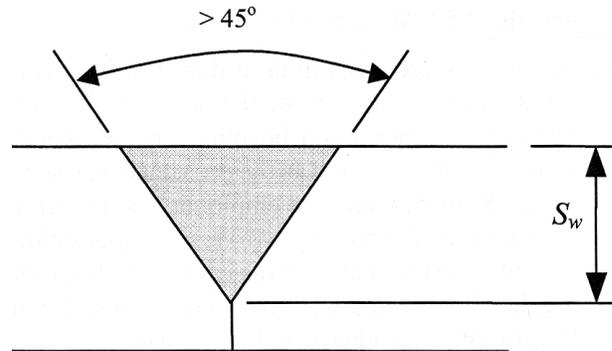

Figure J.2.1
- Size: The size S_w of a complete joint penetration groove weld is the thickness of the thinner part joined. The size S_w of a partial joint penetration groove weld is the depth of preparation (see Figure J.2.1) for all V and bevel groove welds with an included angle greater than 45° , and the depth of preparation of all J and U groove welds.